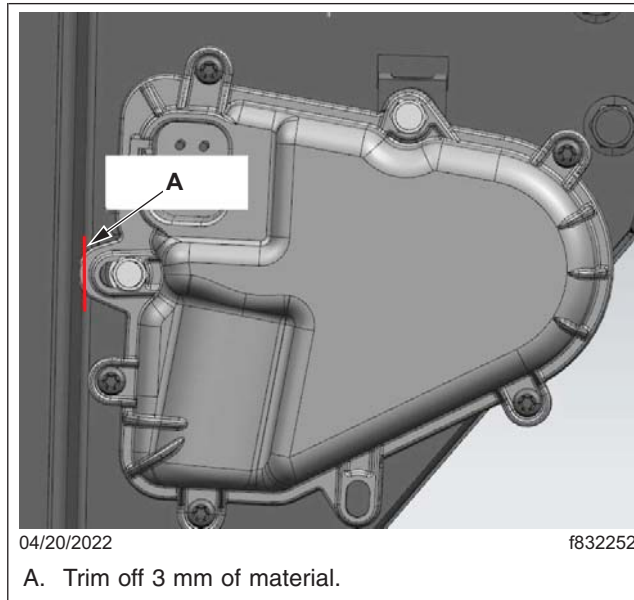

Fig. 3, Area of the Actuator to Trim
7. Before installing, use a grinder to trim 0.19 inch (3 mm) off the front tab of the new actuator (part number RDHRD3 22065 OP) as shown in Fig. 3.